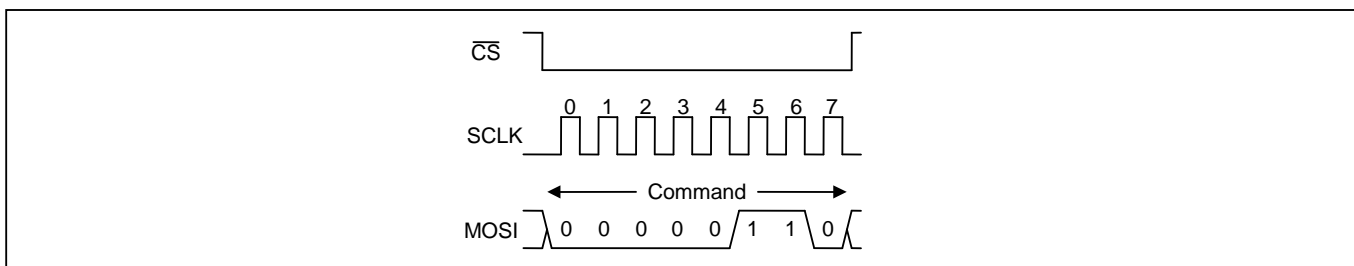
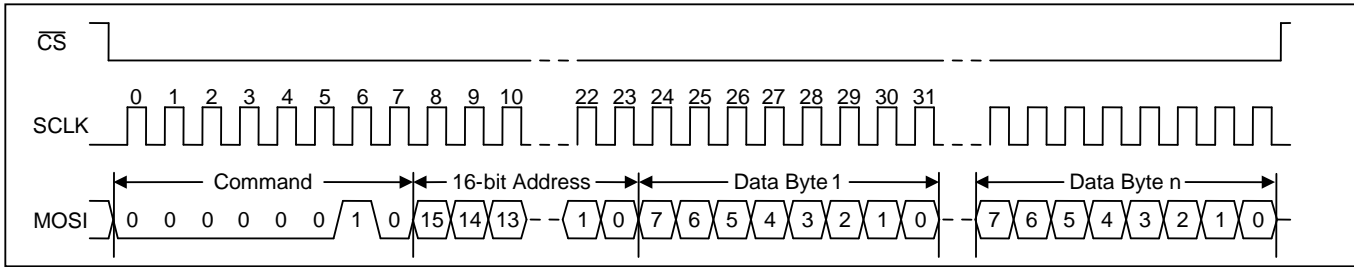

Figure 5 - SPI Write Enable Transaction Functional Timing
Figure 6 - SPI Write Transaction Functional Timing
**Register Write Transactions.** The device registers are accessible when **EESEL**=0. After driving CSN low, the bus master transmits the write command followed by the 16-bit register address followed by the first data byte to be written. The device receives the first data byte on MOSI, writes it to the specified register, increments its internal address register, and prepares to receive the next data byte. If the master continues to transmit, the device continues to write the data received and increment its address counter. The write transaction is completed when the bus master drives CSN high. See Figure 6.
drives CSN high, the device transfers the data in the page buffer to the appropriate page in the EEPROM memory. See Figure 5 and Figure 6.